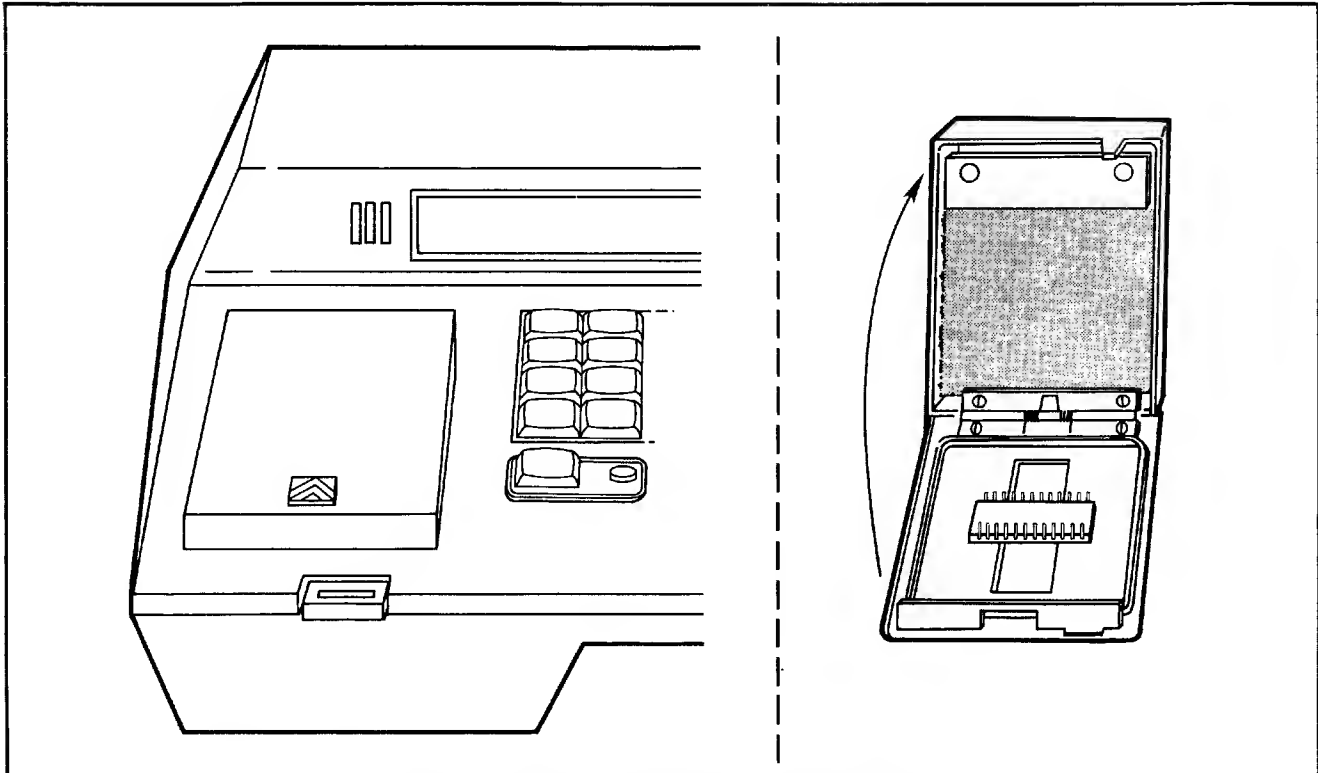

Figure 3-11. Opening the UV Lamp Cover Door
1. Open the UV Lamp cover door. See figure 3-11.
2. Place the MOS EPROMS you wish to erase on top of the UV tube with the PROM pins up. See figure 3-11.